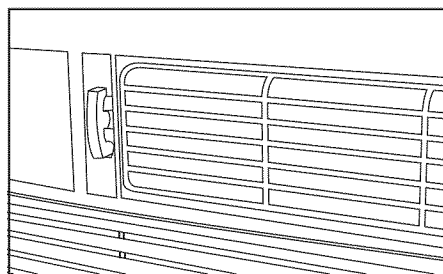

Fig. 2 (FRESH AIR)
- Draw fresh air into the room - Fresh Air (see Fig. 2)